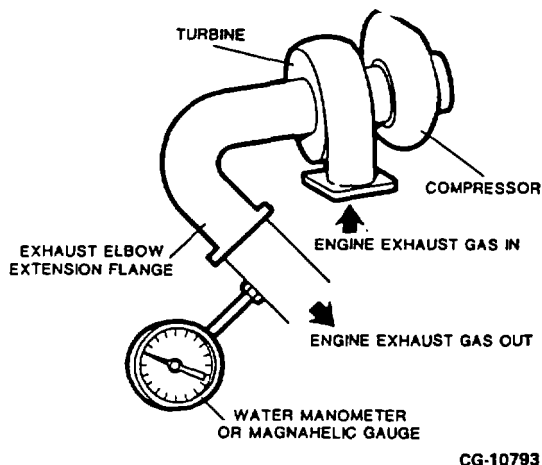
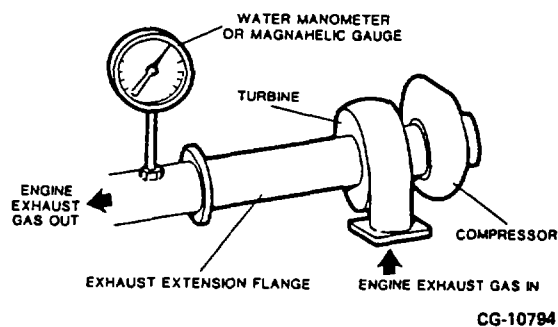

Figure 28. Exhaust Back Pressure Test Location with Exhaust Elbow
Figure 29. Exhaust Back Pressure Test Location with Straight Exhaust Pipe
1. Connect pressure test kit (SE-2239) in a straight section of exhaust pipe approximately 3 to 6 inches after the turbocharger exhaust elbow extension flange, as shown in Figure 28 or 3 to 6 inches after the turbocharger straight pipe exhaust extension flange, as shown in Figure 29.